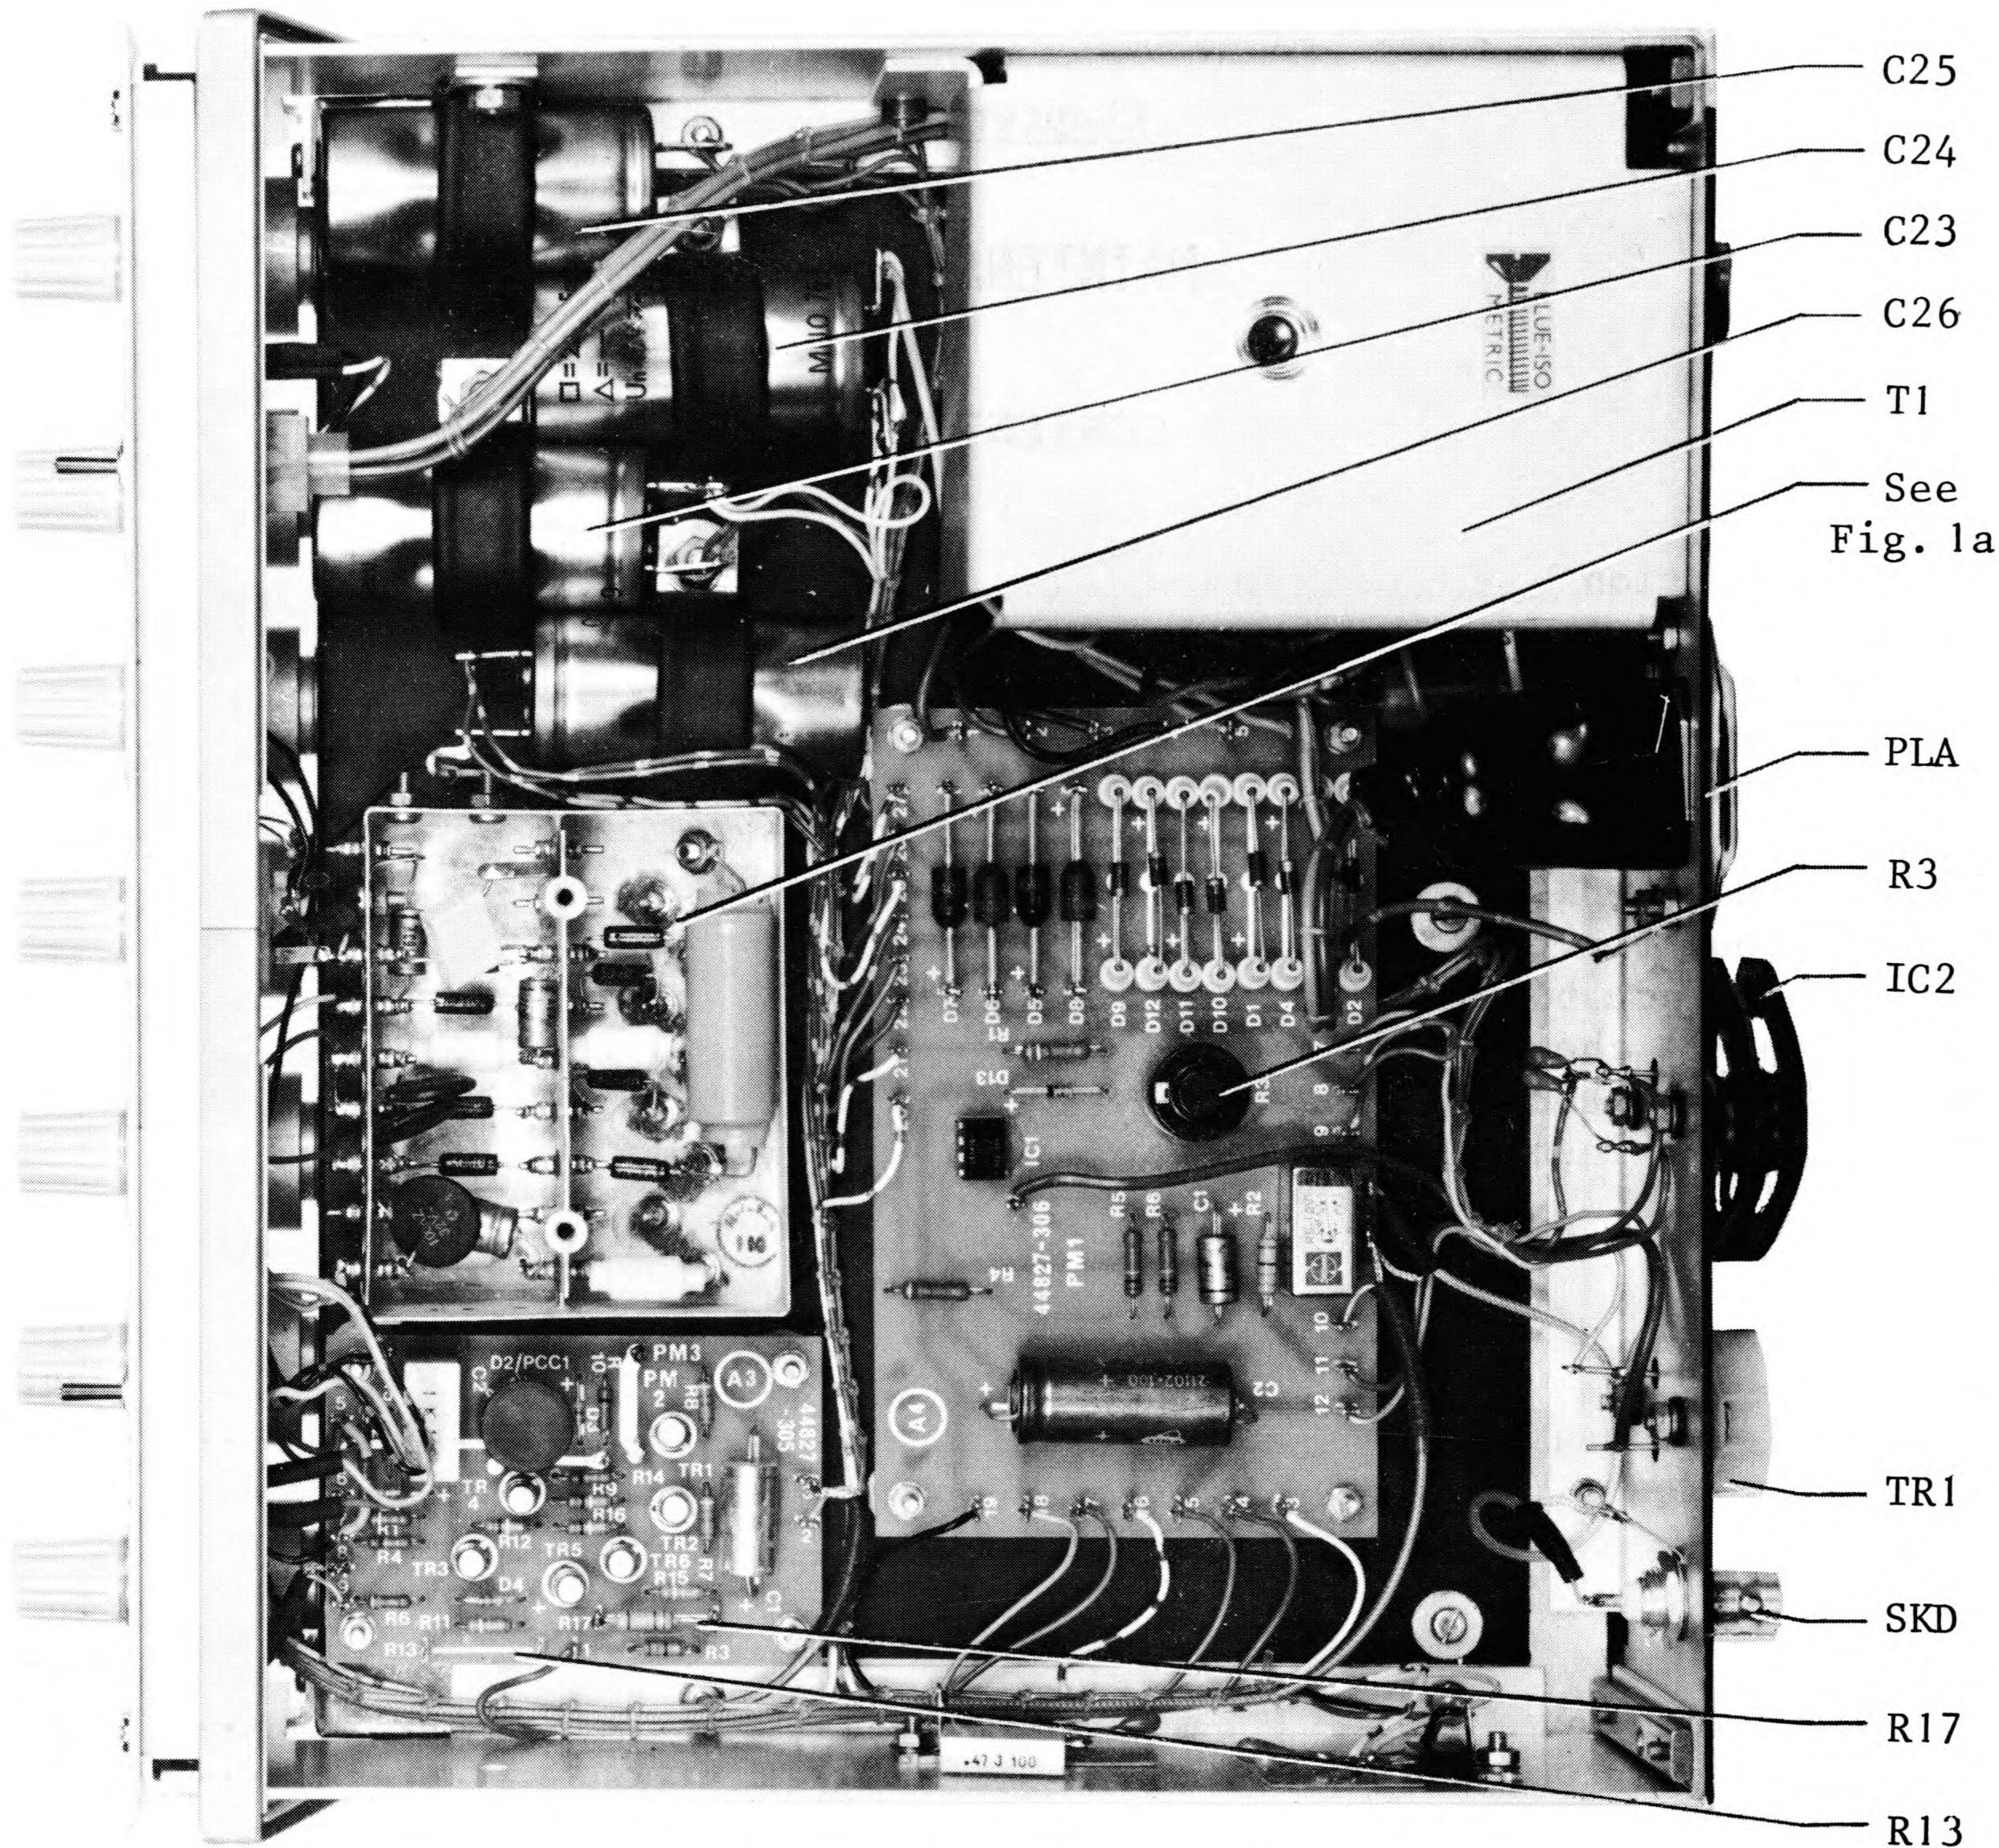

Fig. 1 Underside view
*Circuit diagram : Chap. 7, Fig. 1*